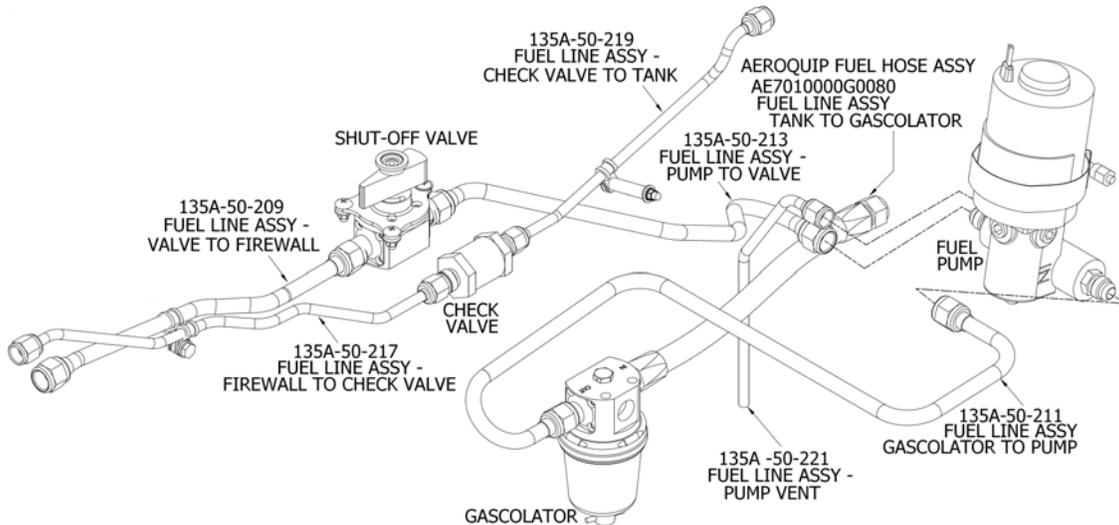

Figure 28-18 Fuselage Fuel Lines
Refer to Figure 28-18 during this procedure.
2. Inspect each fuel system connection system shown in Figure 28-18 for evidence of leaks.
8. Inspect each fuel system connection as shown in Figure 28-18 for evidence of leaks.
11. Inspect each fuel system connection as shown in Figure 28-18 for evidence of leaks.
22. Inspect each fuel system connection shown in Figure 28-18 and the fuel tank for evidence of leaks.